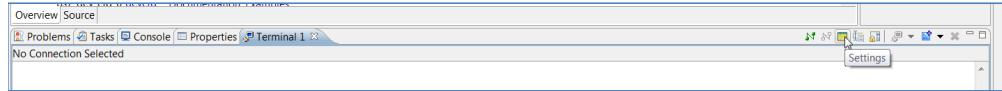

Figure 44: Settings Button
10. Set the terminal by selecting the Terminal 1 tab and clicking the Settings button (FIGURE 44).